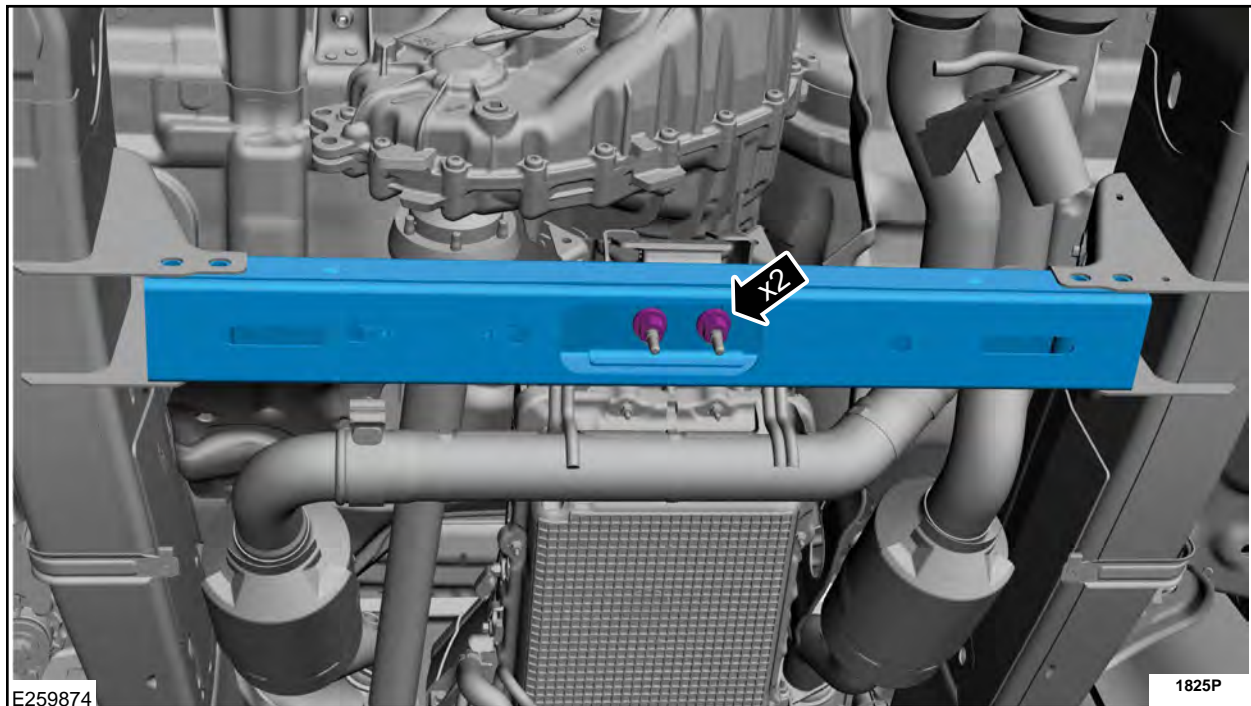

FIGURE 39
59. Install the transmission support crossmember and the transmission mount nuts. See Figure 39.